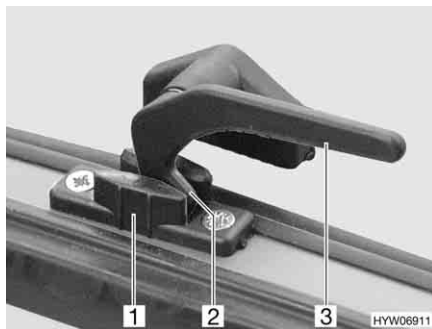

Fig. 80 Catch lever in the "continuous ventilation" position
- "Continuous ventilation" (Fig. 80)
- Turn the catch lever (Fig. 80,3) a quarter turn towards the centre of the window.
- Turn the catch lever a quarter turn towards the window frame. The locking catch (Fig. 80,2) has to be moved into the recess of window catch (Fig. 80,1).